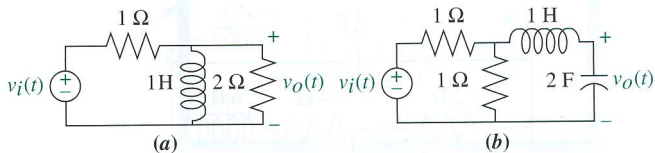

FIGURE P2.3
16. Find the transfer function,  $G(s) = V_o(s)/V_i(s)$ , for each network shown in Figure P2.3. [Section: 2.4]